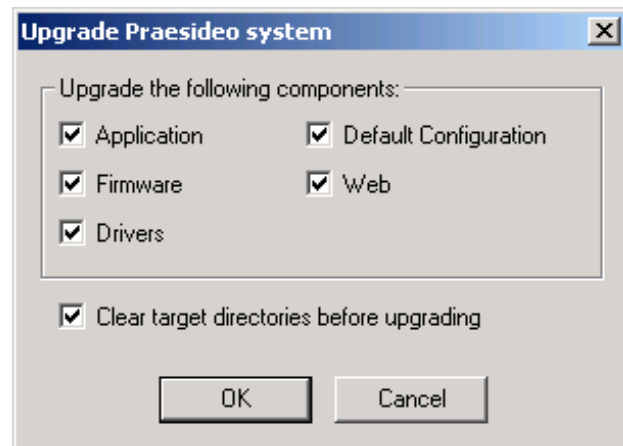

figure 28.6: Upgrade window
- 3 Click the *Upgrade system software* button. A screen similar to the one in figure 28.6 appears.